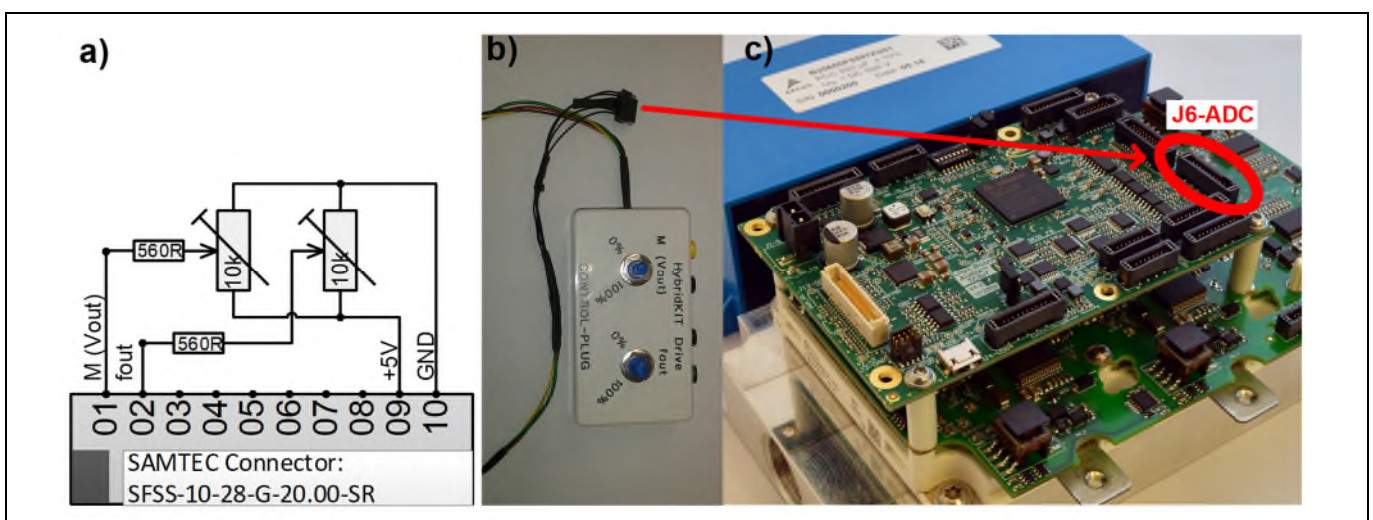

Figure 6 Recommended DEMO-CONTROL-PLUG (a) and (b). The right position of the plug on the logic board connector J6-ADC is indicated in (c).
- 4) Place DEMO-CONTROL-PLUG (see Figure 6).
- 5) Turn potentiometers for modulation index and output frequency to low position. (i.e. pin 1 & pin2 are connected to GND; see Figure 6)
With the DEMO-CONTROL-PLUG of Figure 6, the modulation index (and thus phase output voltage) as well as output frequency can be adjusted. Optional an external 0...5V analog signal can be used, which overrule the poti positions and is useful in case reproduceable operating conditions are desired for a test.